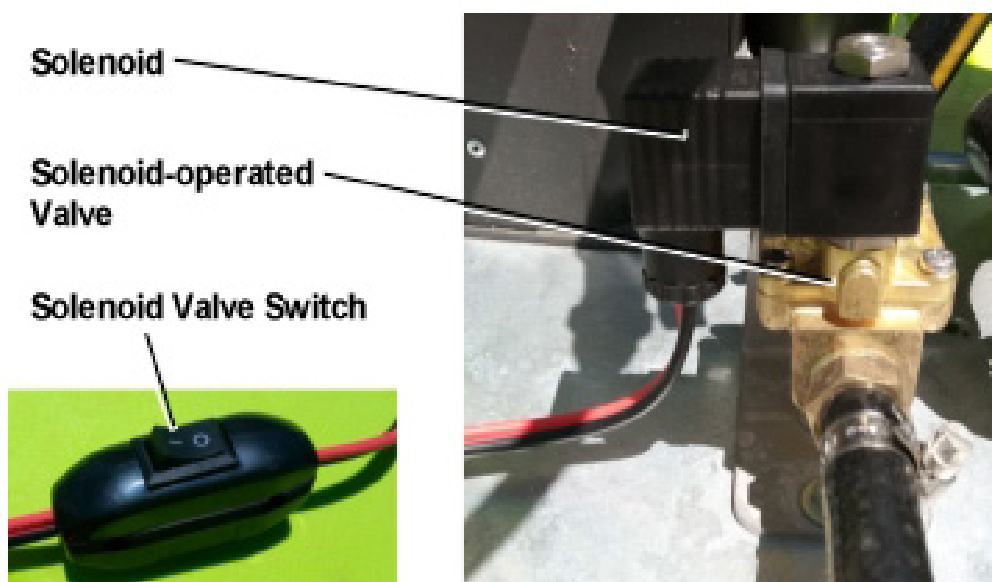

Figure 10 – Solenoid-operated Spray Boom Valve
2. From the vehicle's driver's seat, open the valve to the spray boom by turning the solenoid switch to ON (Refer to Figure 10). The fluid will now start to discharge from the boom spray nozzles.
1. Turn the manually operated spray boom valve to ON (if the optional solenoid actuated valve is fitted, turn the cable-mounted switch to ON, refer to Figure 10).